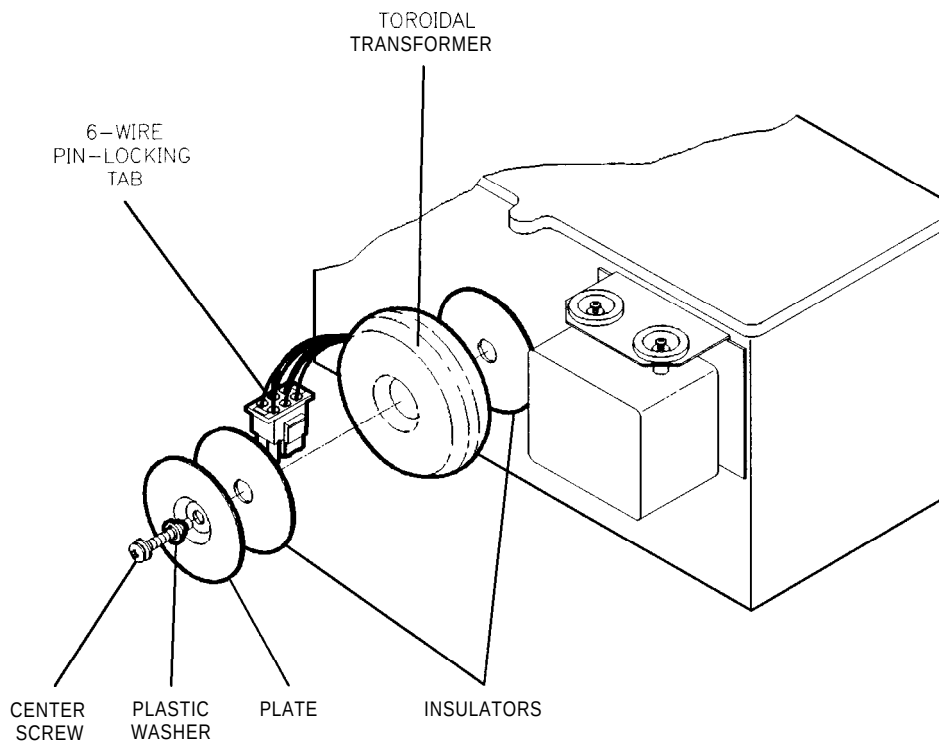

Figure 7-14. Transformer Removal
1. Disconnect the six-wire pin-locking tab. Refer to Figure 7-14.